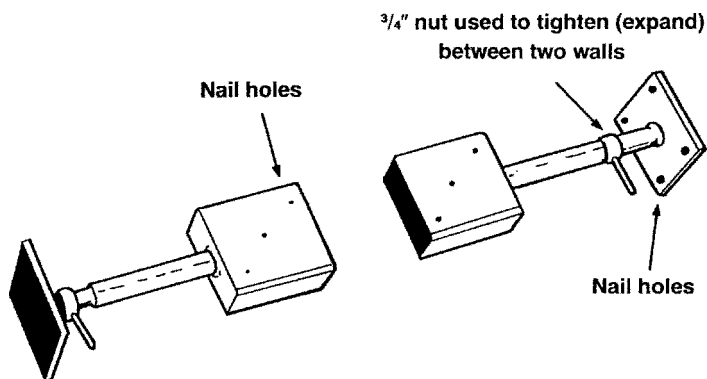

Figure 2.79 Wall spreaders.
1. Wall spreaders (Figure 2.79) are used to suspend grip and lighting equipment wall-to-wall by inserting a precut 2 in. $\times$ 4 in. or 2 in. $\times$ 6 in. stick of lumber into the mounts, then wedging the complete unit between the walls.